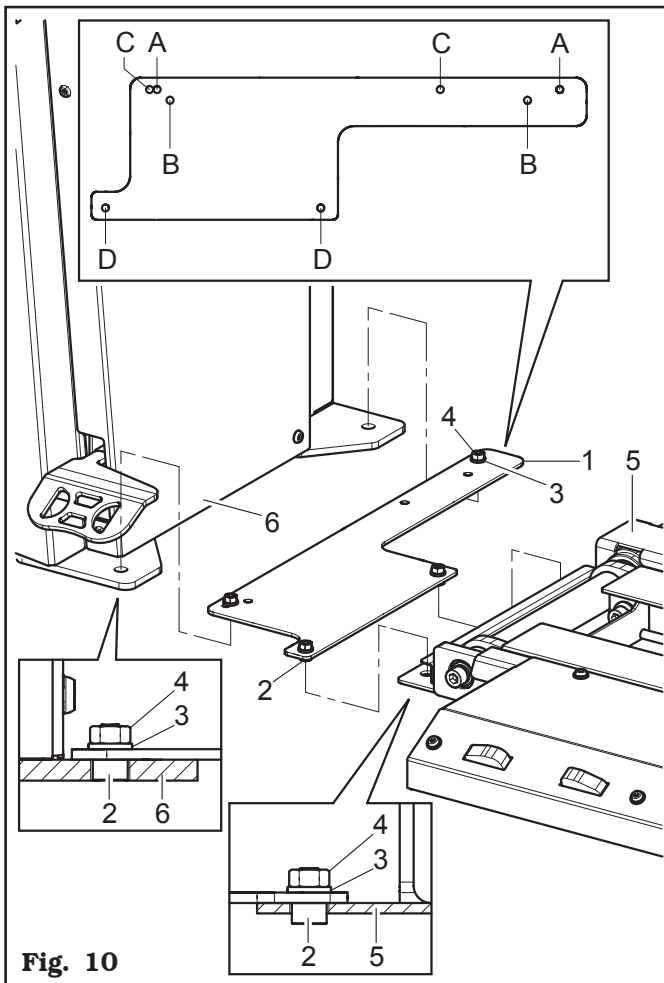

Fig. 10
In case the wheel balancer is not fastened to the ground (wheels weight lower than 30 kg), the lifting device takes place next to the wheel balancer using the template on issue (**Fig. 10 ref. 1**). On the template the screws, the washers and the nuts (**Fig. 10 ref. 2, 3 e 4**) must be inserted in couples (A-A, B-B of C-C) into the Ø11 holes on the wheel balancer frame.
- mount the template (**Fig. 10 ref. 1**) to the lifting device (**Fig. 10 ref. 5**).
- place the whole assembly next to the wheel balancer (**Fig. 10 ref. 6**), using the existing holes in the feet of the wheel balancer.
- remove the screws, the washers and the nuts (**Fig. 10 ref. 2, 3 and 4**) from the template (**Fig. 10 ref. 1**);
- place the template (**Fig. 10 ref. 1**) next to the wheel balancer small blocks, widening to Ø11 only the couple of holes (A-A, B-B or C-C see **Fig. 10**) that correspond to the small blocks;
- place the template (**Fig. 11 ref. 1**) on the wheel balancer (**Fig. 11 ref. 2**) and mark out the position of the holes of the 2 small blocks (excluded from supply) lifting device wheel balancer side (**Fig. 11 ref. 3**), using the two D-D holes (see **Fig. 10**).